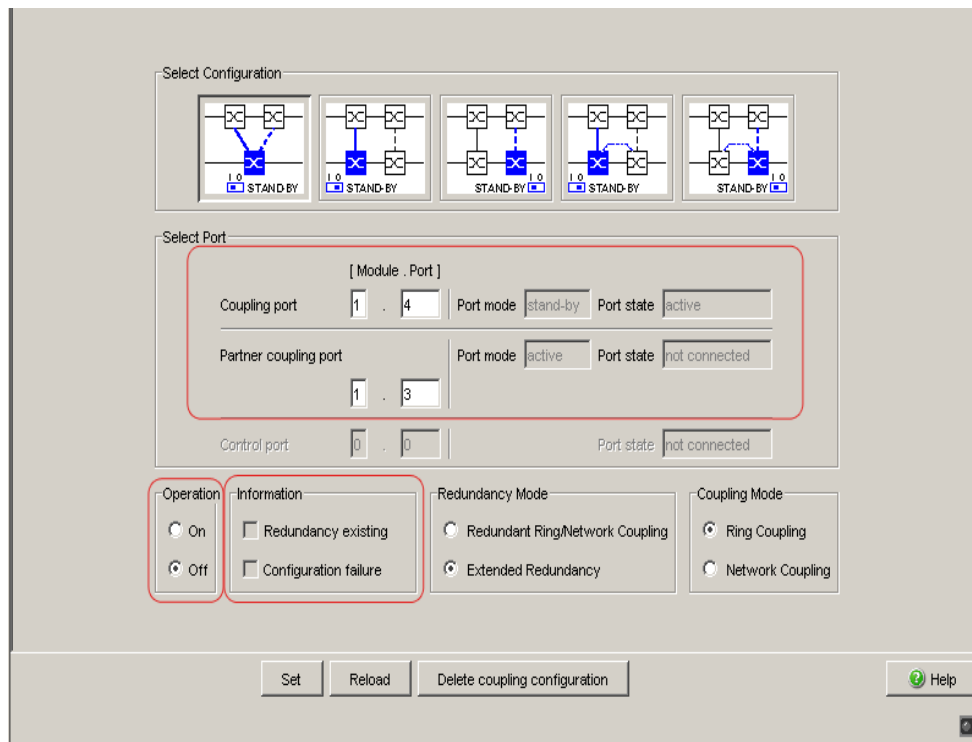

Figure 25: Selecting the port and enabling/disabling operation
- ☐ Select the partner coupling port (see fig. 25), (see table 9).
- ☐ Select the coupling port (see fig. 25), (see table 9).
The displays in the “Select port” frame mean (see fig. 25):
The displays in the “Information” frame mean (see fig. 25):
☐ Select the coupling port (see fig. 25), (see table 9).